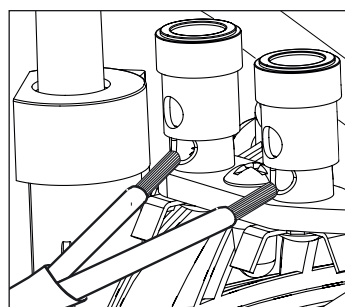

Figure 2. Subwoofer connectors
3. On each set of subwoofer connectors, press down the spring-loaded connector, insert the appropriate conductor, and then release the connector. Gently tug on the subwoofer wire to make sure it is held in place. If not, repeat this procedure until it is. (See **Figure 2**).